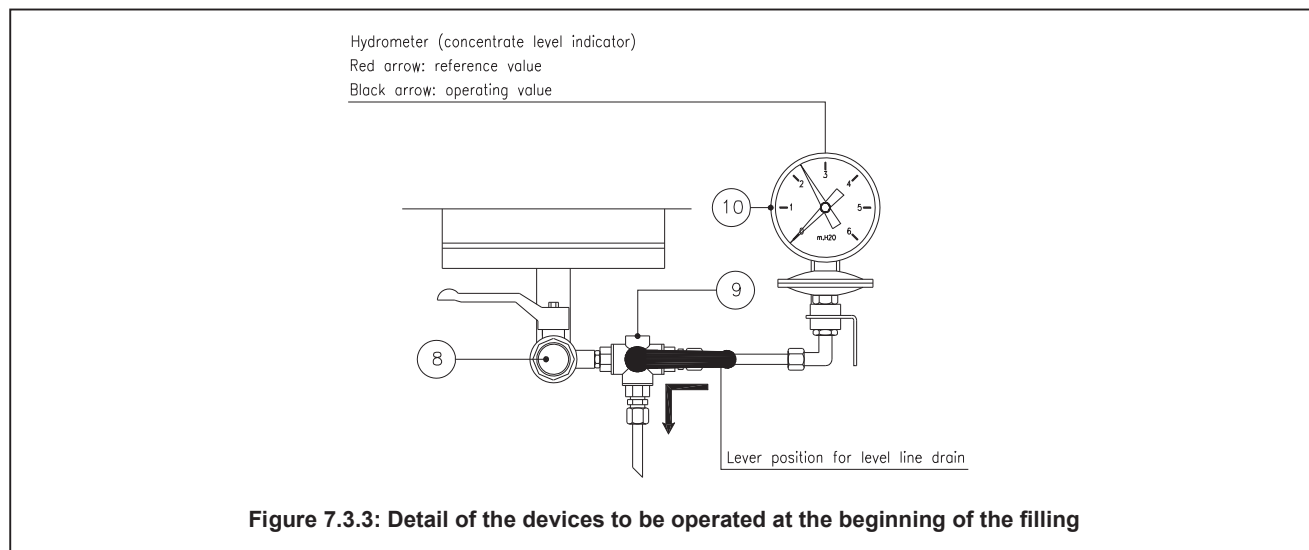

Figure 7.3.3: Detail of the devices to be operated at the beginning of the filling
1. Make sure that the three way valve (9) is set to put in communication the liquid indicator and the drain, so as to isolate the instrument from the bladder tank (see **figure 7.3.3**). (Pressure in excess of 0.6 bar applied to the level indicator may damage it).